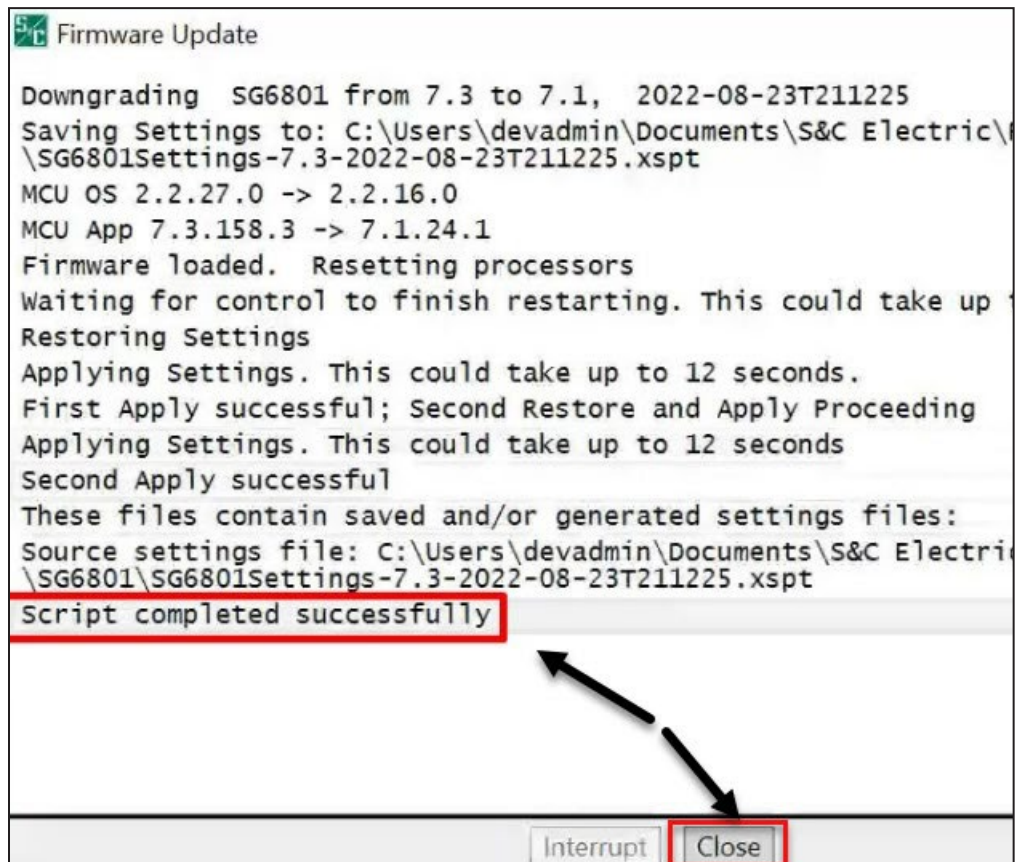

Figure 39. The “Script completed successfully” message.
STEP 21. When “Script completed successfully” is indicated in the Firmware Update dialog box, click on the **Close** button. See Figure 39.